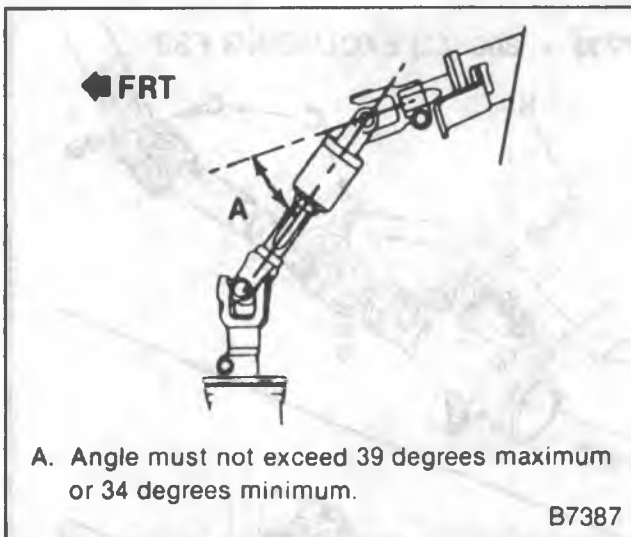

Figure 8—Carden Joint Angle (G-Model)
Measure (Figure 8)
- Carden joint operating angle. The angle must not exceed 39 degrees maximum or 34 degrees minimum (figure 8).